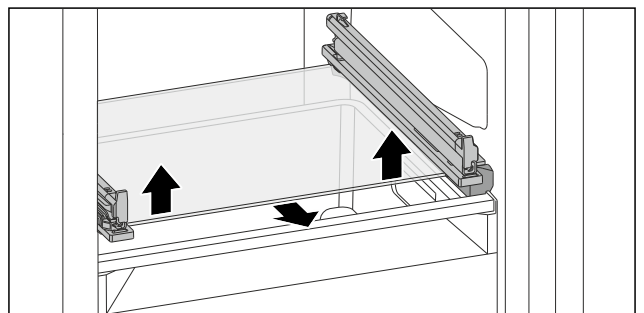

Fig. 70 Tilting drawer glass shelf
- Push glass shelf upwards from below on both sides. (see Fig. 70)